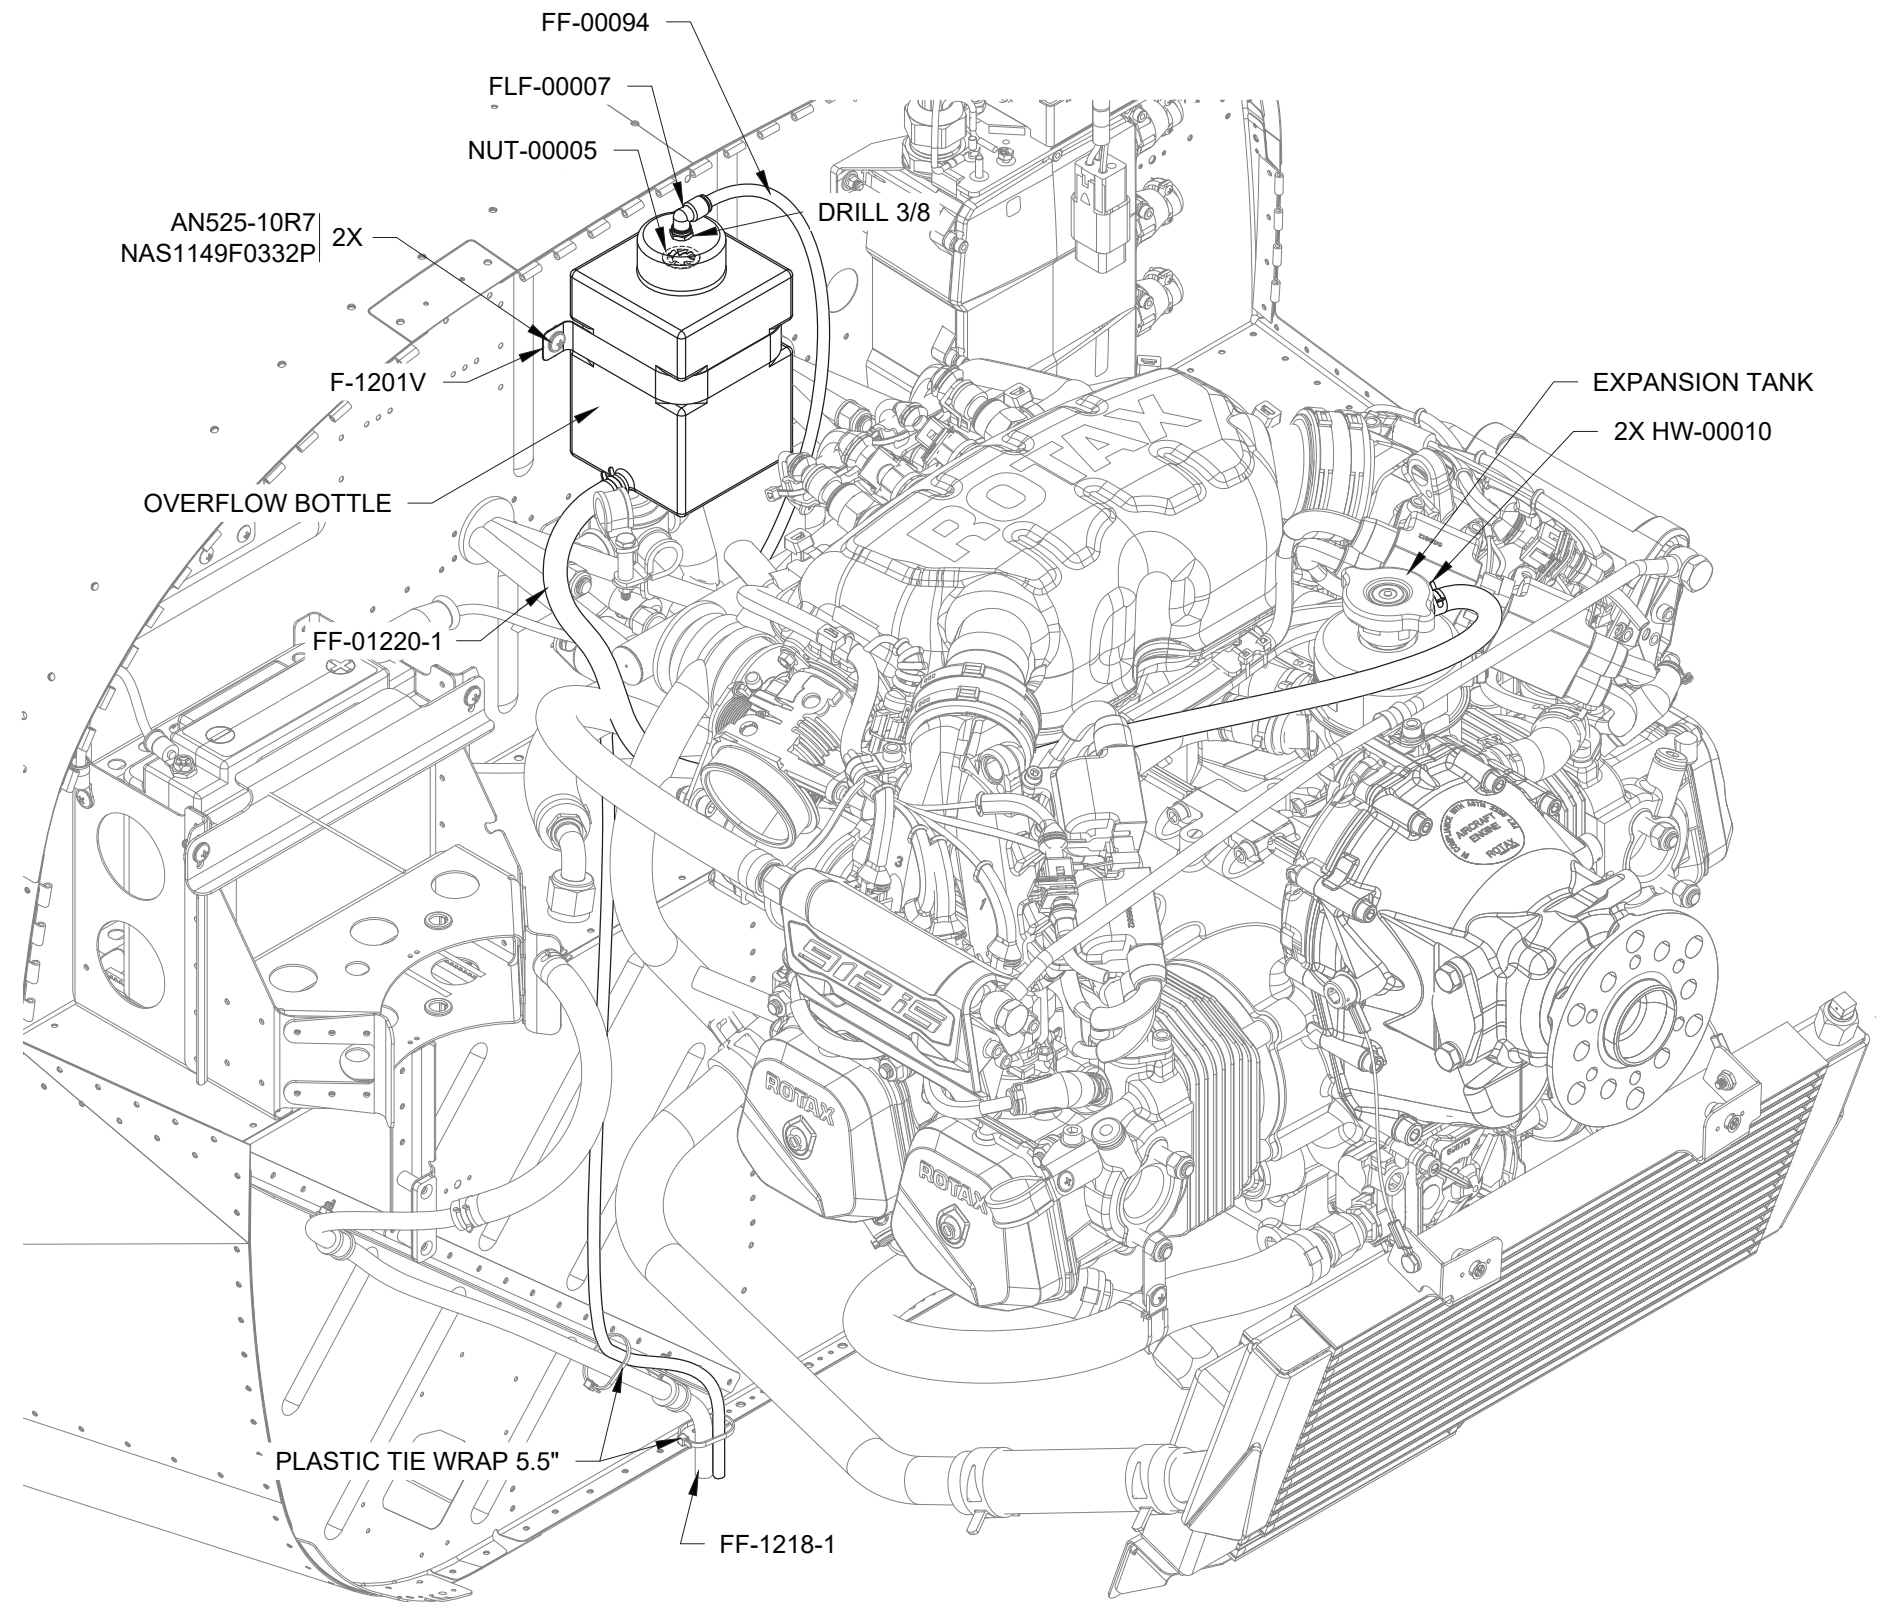

FIGURE 1: OVERFLOW BOTTLE
Step 11: Route the free end of the FF-01220-1 forward and around the right side of the Airbox, passing under the engine mount as shown in Figure 1 and securing the FF01220-1 to the oil temperature sensor wiring.
Step 12: Slide the free end (with clamp) over the barbed stem on the Expansion Tank and clamp as shown in Figure 1.